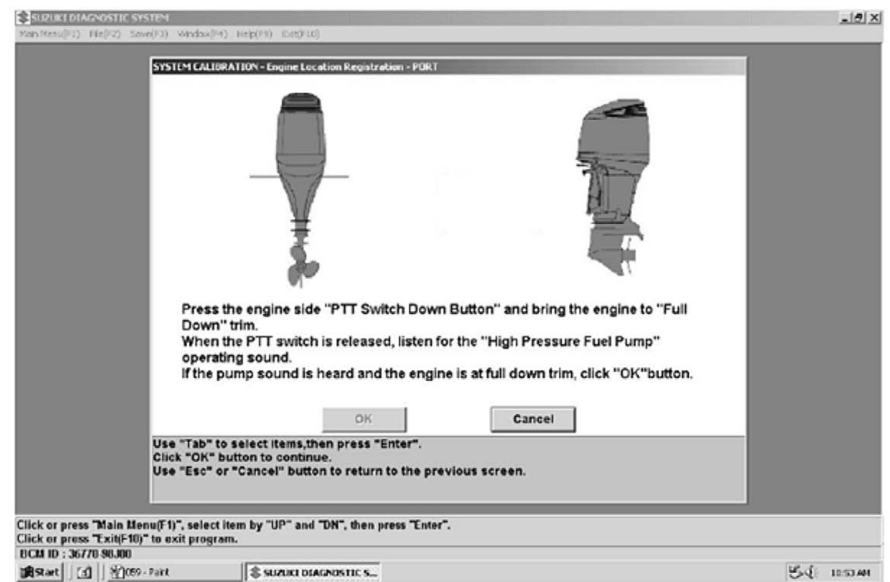

Figure 7-5. Registering the engine position
4. The wizard will then guide you to trim each engine down in turn in order to register their position in the boat control module (BCM). Follow the on-screen instructions. An example is shown in figure 7-5.